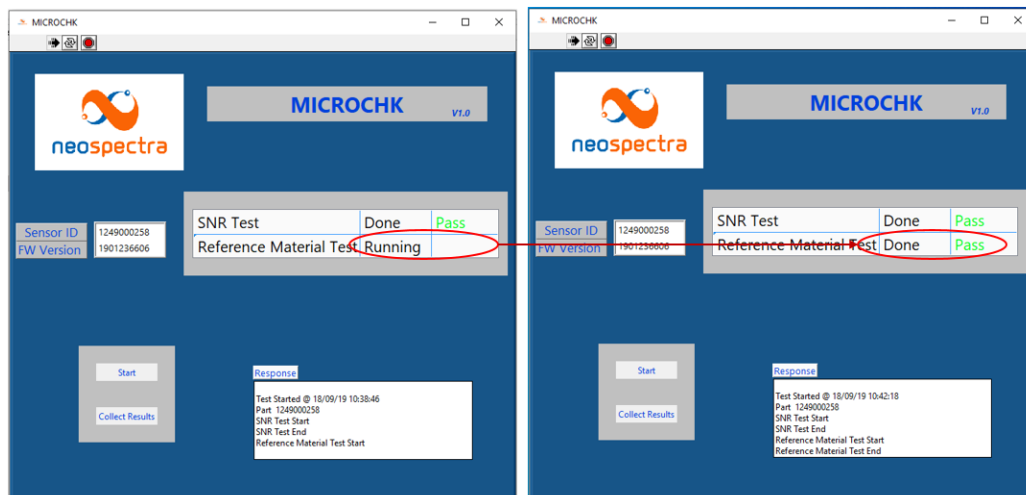

Figure 16: Reference material test
11. The reference material test will start running. The test status will indicate if the test passes or fails as shown in Figure 16.